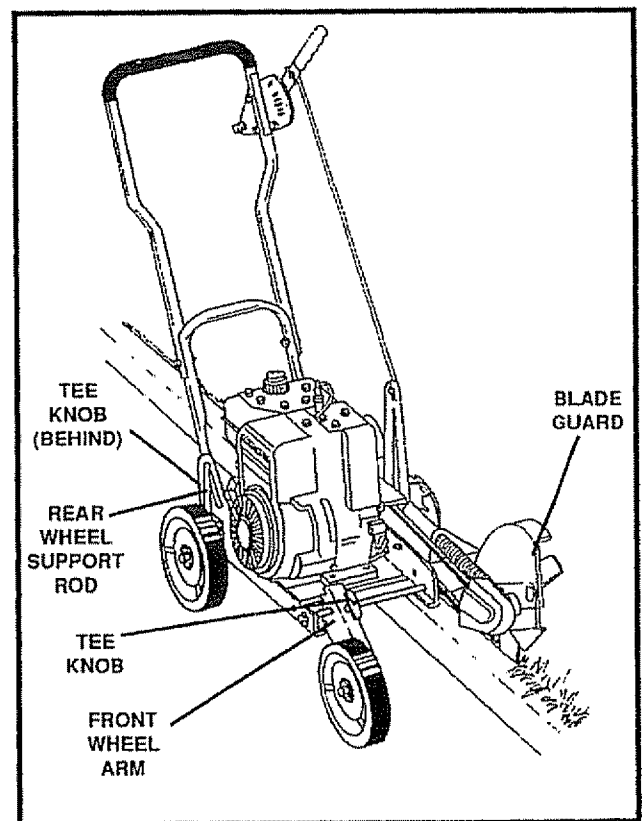

FIG. 10
The adjustable front and right rear wheel feature permit the edger/trimmer to be used on an uneven surface (such as a curb) as shown in Fig 10
- Loosen the tee knob on the inside right rear of the main frame that secures the wheel support rod (See Fig. 10)